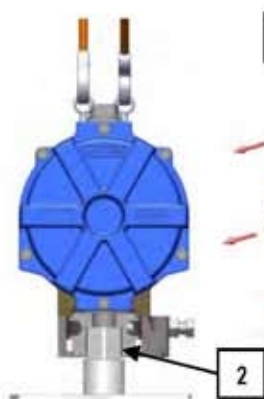

Fig.6
4. Place the actuator on a support with a square of the same size of the pinion (2) so as to easily execute the below listed operation (see Fig. 6);
5. Before disassembling the actuator **check** from the label on the body whether it is a double acting (DA) or spring return (SR) type;